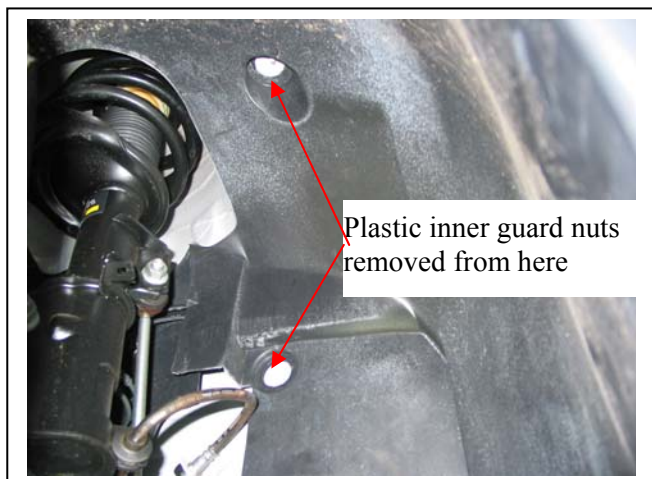

Figure 1 – Driver's side shown
1. Working on one side at a time, turn wheel out full lock. Remove two plastic nuts from plastic inner guard. One located on chassis and one located near suspension strut. **See figure 1.** Remove plastic PK clips from lower front inner guard where it attaches to bumper cover. **See figure 2.**